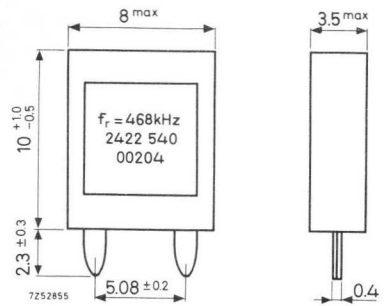

Fig.2
- for printed-wiring boards with holes of 0.8 mm (Fig.2).